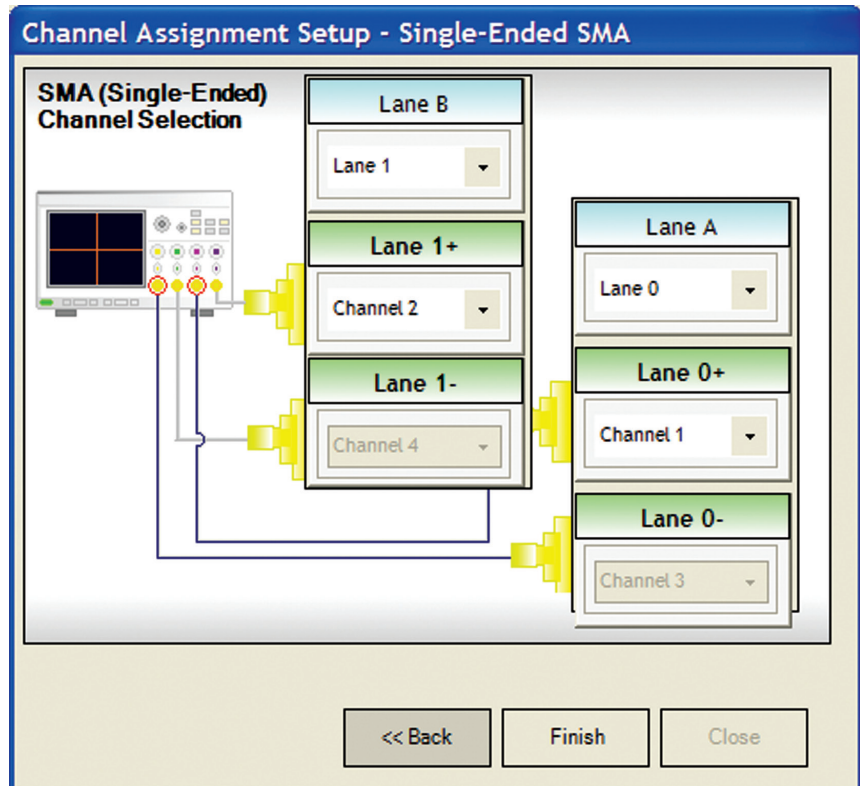

Figure 5: Channel Assignment Setup: Lane and oscilloscope assignment: 2 Lane Single-ended Connection using all four scope channels.
- Oscilloscope Connection: this screen allows you to assign oscilloscope channels and device lanes to test. See Figure 5.
The final screen in the Test Setup loop is the Channel Assignment Setup (shown in Figure 5). It will portray the connection expected in number of channels and type of connection requested. It is editable and if there are channel assignment conflicts, the user is alerted to the fact.